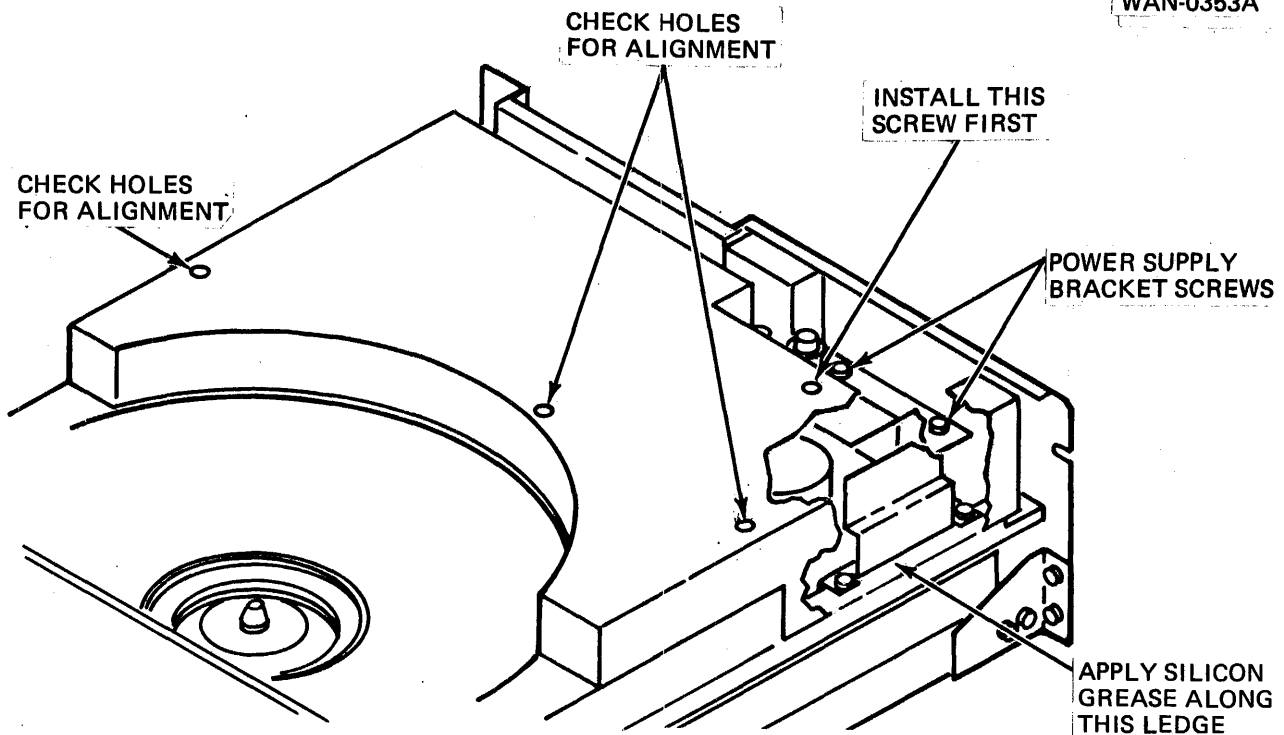

Figure 5-9. Top Cover Hole Alignment
- A. Set the top cover in place, and insert the mounting screw in the access hole located toward the rear of the unit, as shown in Figure 5-9.
- C. If all three front holes are not aligned with the threaded standoffs, loosen the two screws through the horizontal fuse mounting bracket on the power supply assembly (ref. figure 5-9).